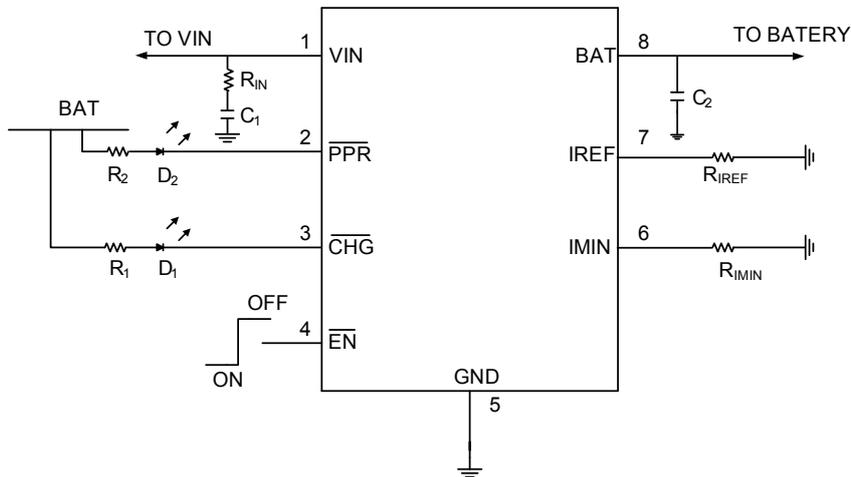
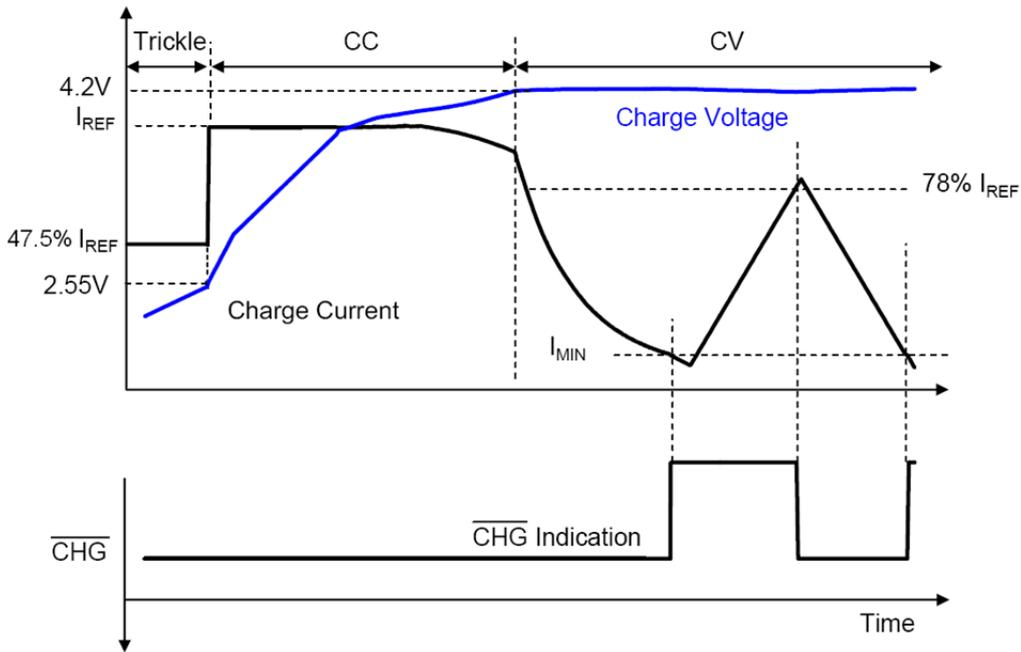

Figure1 Typical Application Circuit Interfacing to Indication LEDs
Figure3 Typical Charge Profile
COMPONENT DESCRIPTION FOR Figure1
The CJ40561 charges a Li-Ion battery using a CC/CV profile. The constant current IREF is set with the external resistor R_{IREF} (see Figure 1) and the constant voltage is fixed at 4.2V or 4.35V. If the battery voltage is below a typical 2.55V, or
4.2V or 4.35V. When the battery voltage reaches 4.2V or 4.35V, the charger enters a CV mode and regulates the battery voltage at 4.2V or 4.35V to fully charge the battery without the risk of over charge. Upon reaching an full-of-charge (FOC) current, the charger indicates the charge completion with the $\overline{\text{CHG}}$ pin, but the charger continues to output the 4.2V or 4.35V voltage. Figure 3 shows the typical charge waveforms after the power is on.
The FOC current level I_{MIN} is programmable with the external resistor R_{IMIN} (see Figure 1). The $\overline{\text{CHG}}$ pin turns to low when the trickle charge starts and rises to high impedance at the FOC. After the FOC is reached, the charge current has to rise to typically 78% of I_{REF} for the $\overline{\text{CHG}}$ pin to turn on again, as shown in Figure 3. The current surge after FOC can be caused by a load connected to the battery.
The $\overline{\text{PPR}}$ pin is an open-drain output to indicate the presence of the AC adapter. Whenever the input voltage is higher than the POR threshold, the $\overline{\text{PPR}}$ pin turns on the internal open-drain MOSFET to indicate a logic low signal, independent on the $\overline{\text{EN}}$ pin input. When the internal open-drain FET is turned off, the $\overline{\text{PPR}}$ pin leaks less than 20µA current. When turned on, the $\overline{\text{PPR}}$ pin is able to sink at least 15mA current under all operating conditions. The $\overline{\text{PPR}}$ pin can be used to drive an LED (see Figure 1) or to interface with a micro-processor.
IMIN is the end of charge current when $\overline{\text{CHG}}$ indicates a full of charge condition. All current out of the CJ40561 BAT pin should be counted into IMIN, including load current and the indication LED currents. As illustrated in Figure 3, the CJ40561 continues to supply current unless it is disabled by EN pulled high, regardless of the status of $\overline{\text{CHG}}$ pin. When charge current ever goes lower than IMIN, $\overline{\text{CHG}}$ pin stays high impedance until the charge current goes higher than 78% of IREF, which is another factor to consider in design of IREF, IREF should be high enough to so that 78% of IREF is higher than the current that is designed not to initiate $\overline{\text{CHG}}$ indication, while is low enough to assure the power source could deliver higher than 78% of IREF to initiate $\overline{\text{CHG}}$ indication.